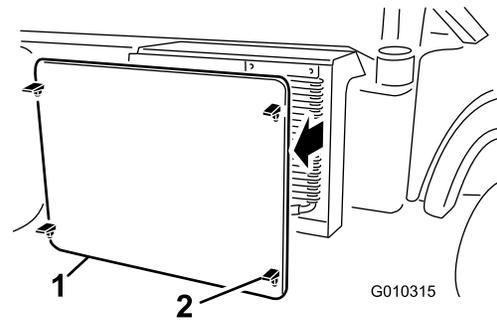

Figure 31
3. Unlatch and remove the radiator screen from the front of the radiator (Figure 31).